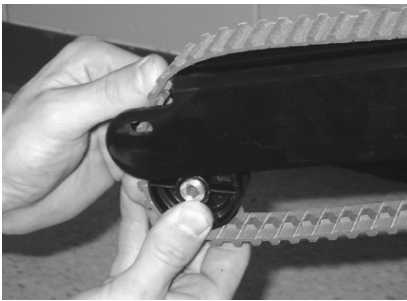

Figure 8 – Remove the rollers
5. Using two 7/16" wrenches, remove the hex head cap screw, nut, and washers from both head end track rollers to remove the rollers (Figure 8).